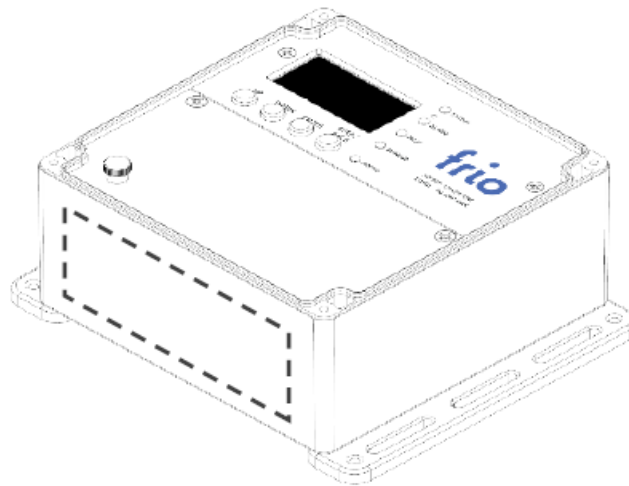

Figure 1: Frio S1 controller showing the bottom side where to drill wiring holes.
2. Drill holes on the bottom face of the controller (mount fittings inside of the dashed line shown in Figure 1) and mount your conduit and cable fittings. Do not drill holes within 0.5" of the edge of the enclosure. After drilling the holes, ensure that all plastic shavings have been removed from the controller.